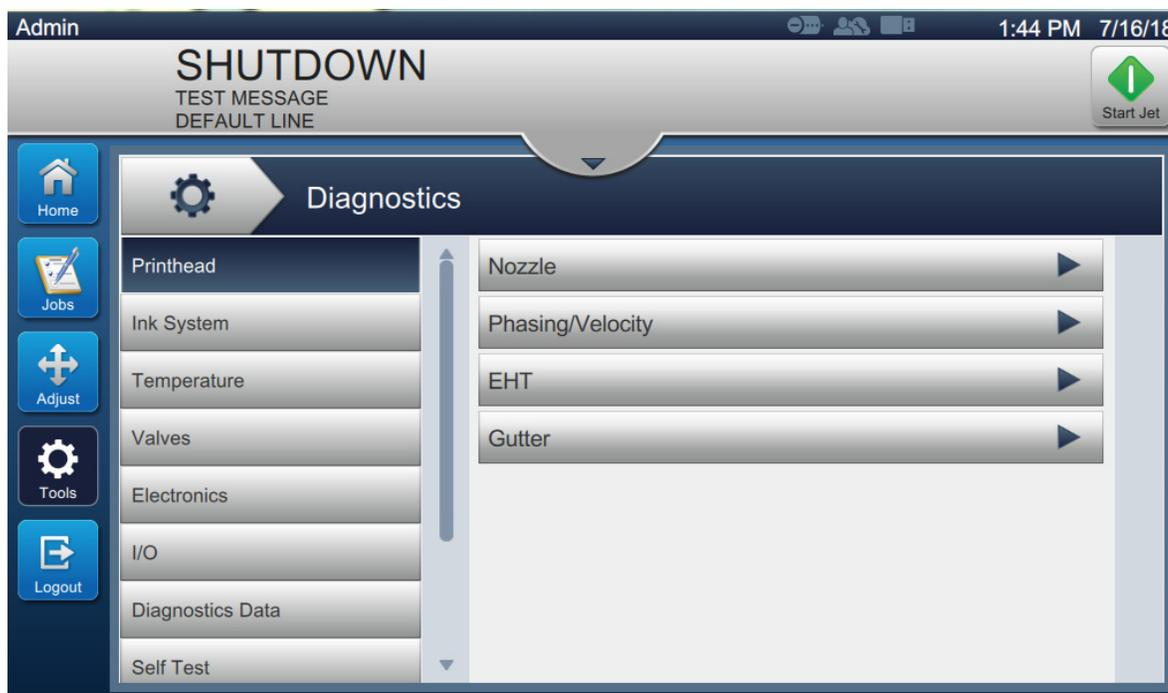

Figure 5-1: Diagnostics
1. Touch the  button from the Tools screen. The Diagnostics screen opens as shown in the Figure 5-1.